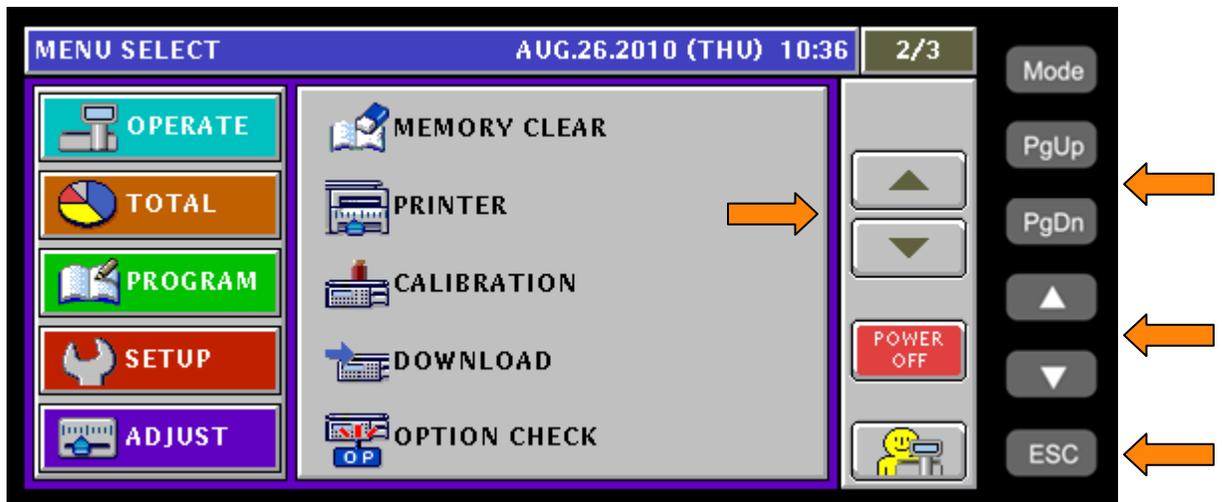

Figure 10.3. Uni-7 Navigation Buttons and Keys
2. Use ▲ and ▼ buttons to scroll through the menu pages. See Figure 10.3.